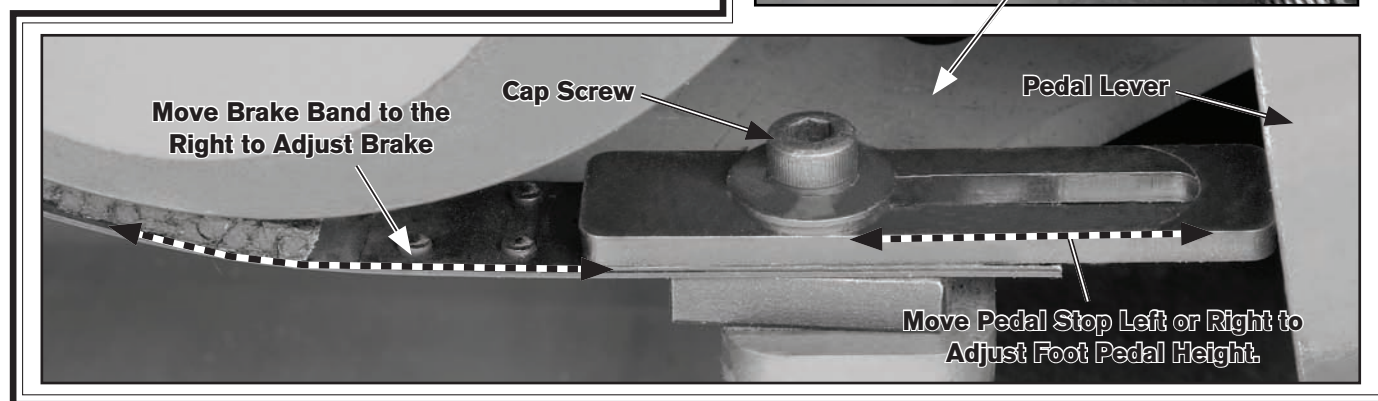

Figure 139. Brake linkage adjustments.
5. Remove pedal stop shown in **Figure 139**.